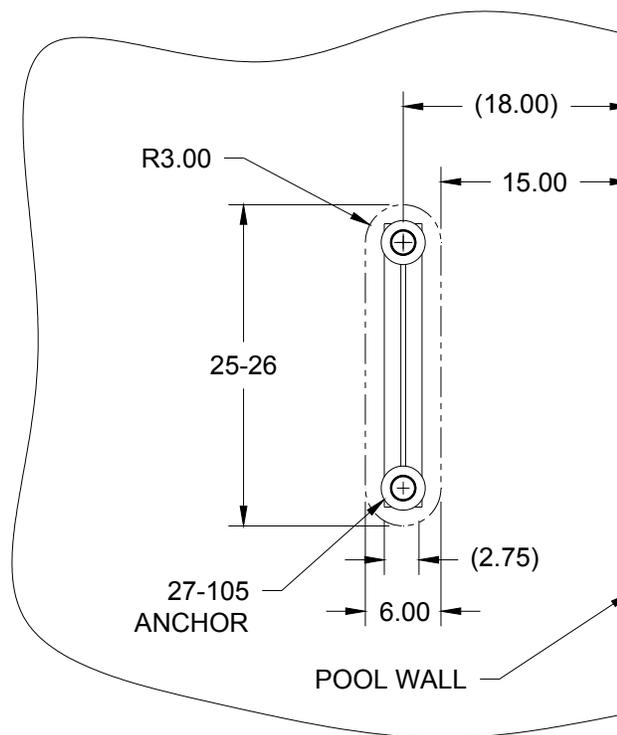

Figure 4 PlanView
3. For installing the anchor in an existing pool deck, use a concrete cutting core drill of at least 6 inches in diameter. Drill two (2) holes a minimum of 7-1/4" deep and apart 19-1/2" on-center. Cut out remaining concrete using a concrete saw, making two (2) straight cuts parallel to the pool wall and tangent to the 6" diameter holes as shown in phantom line in **Figure 4**. For either new or an existing pool deck, the anchor shall be braced so it is not moved from its proper position during pouring of the deck.